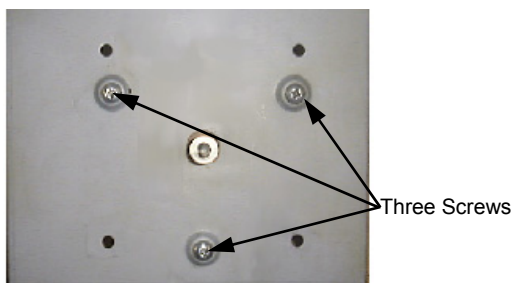

Figure 6.3.12
- 3) Remove three screws holding motor to bracket and remove motor. (fig 6.3.12)